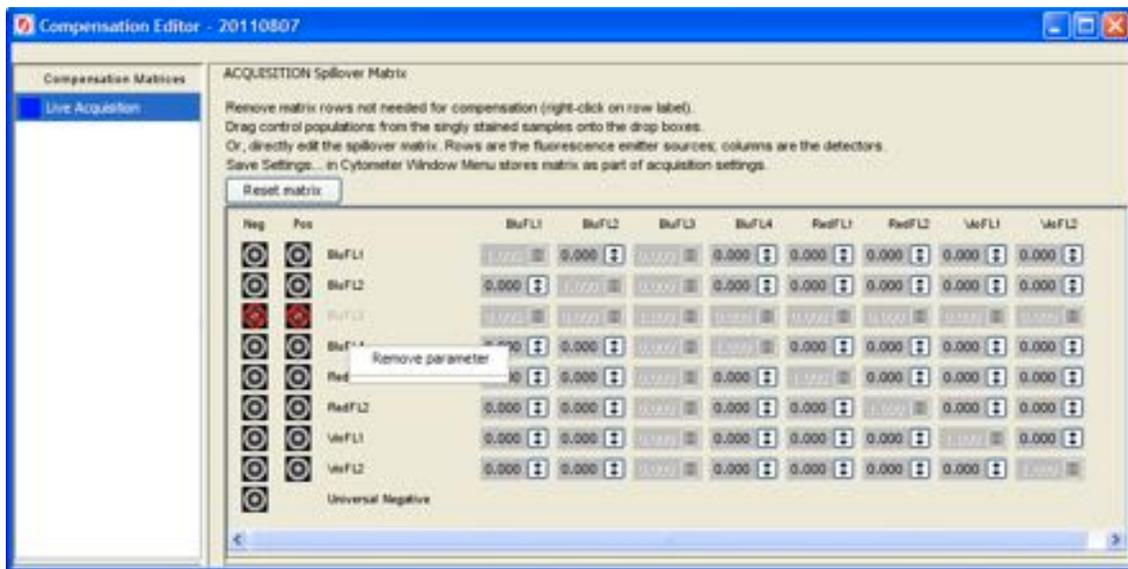

Figure 6.8.2.1
4. Within the Spillover Matrix window, remove any parameters that will not be used for the experiment. For example, in Figure 6.8.2.1, BluFL3 does not have a fluorochrome assigned in this experiment and was removed. This is done by right clicking on the name of that parameter and selecting **Remove parameter**.